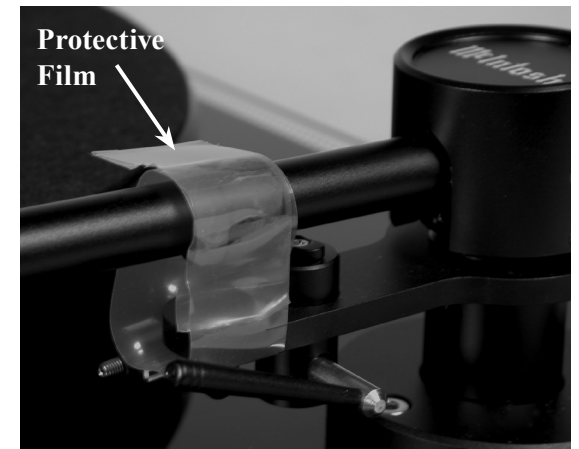

Figure 12
9. Remove the protective film material from the Tone Arm Rest Position. Refer to figures 12 and 13.